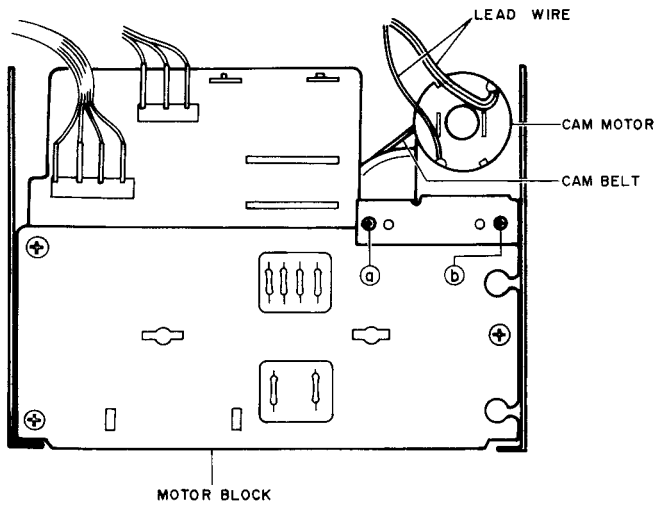

Fig.4-7
- 3) Remove cam motor base screws (a) and (b) from the motor block. (See Fig. 4-7.)